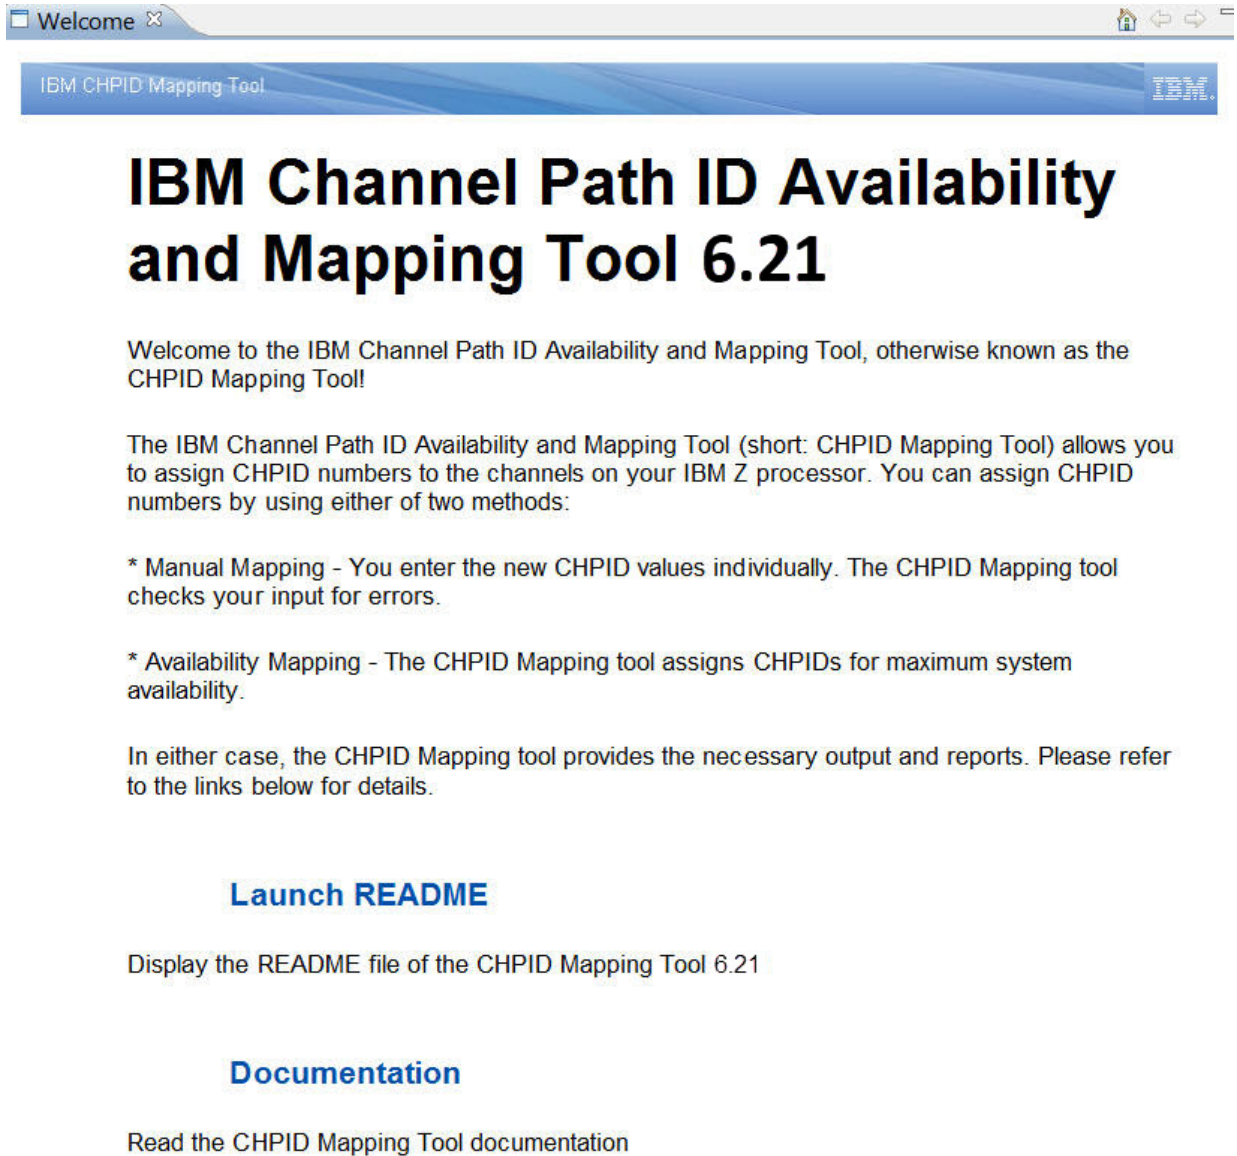

*Figure 3. CHPID Mapping Tool icon*
After you download and install the CHPID Mapping Tool, its icon is available on your desktop. Figure 3 on page 7 shows the icon.
1. Double-click the CHPID Mapping Tool icon to open the tool. Figure 3 on page 7 shows this icon.